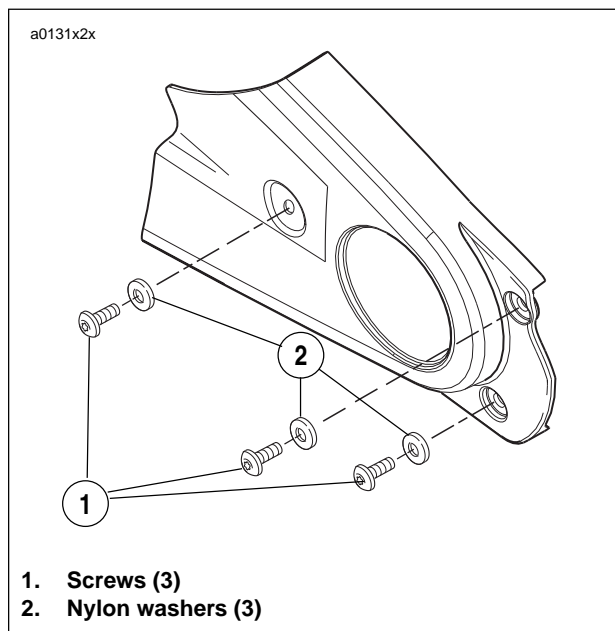

Figure 2-105. Sprocket Cover Fasteners
3. See Figure 2-105. Remove the three screws and washers on sprocket cover.